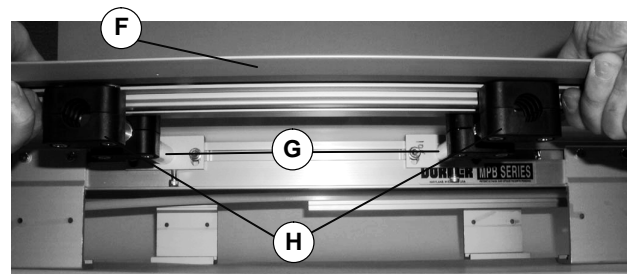

Figure 10
9. Lift table (F of Figure 10) and slide clamps (H) on to support bars (G).